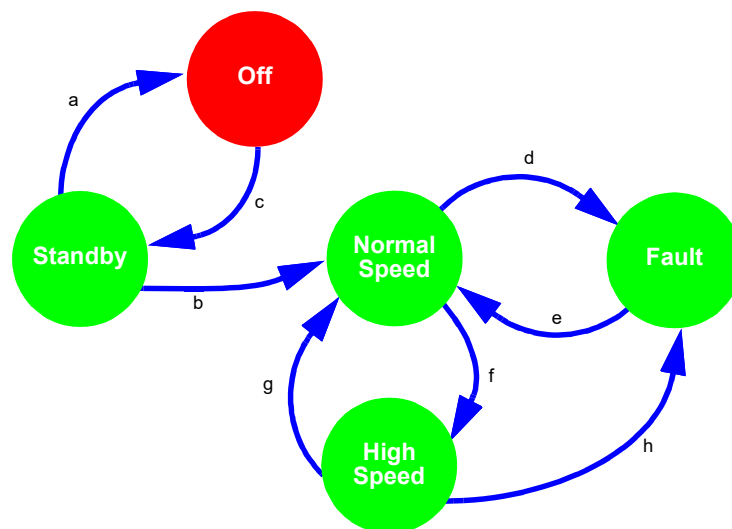

Figure 107: Asynchronous State Machine State Transitions
The Asynchronous State Machine macrocell is one of several macrocells in the Asynchronous State Machine Subsystem, and its specific role is to hold one active state at a time, and to facility user defined state transitions in a fast and power efficient manner. This macrocell is designed to allow the user to create state machines with between 2 to 12 states. When combined with the other macrocells in the ASM subsystem [four Dynamic Memory (DMx_x) macrocells, three Matrix Interface (MIx) macrocells, and one f(1) Computation Macrocell], the user has flexibility to define the available states, the available state transitions, and the input signals (a, b, c ...) that will cause transitions from one state to another state, as shown in the example in Figure 107.